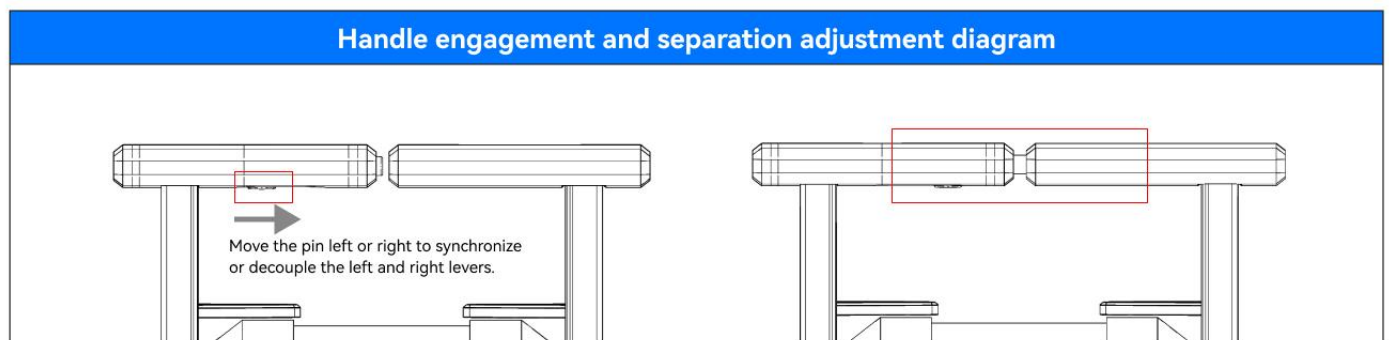

Figure 4.1
1. Engage and detach the left and right grips, as shown in Figure 4.1.